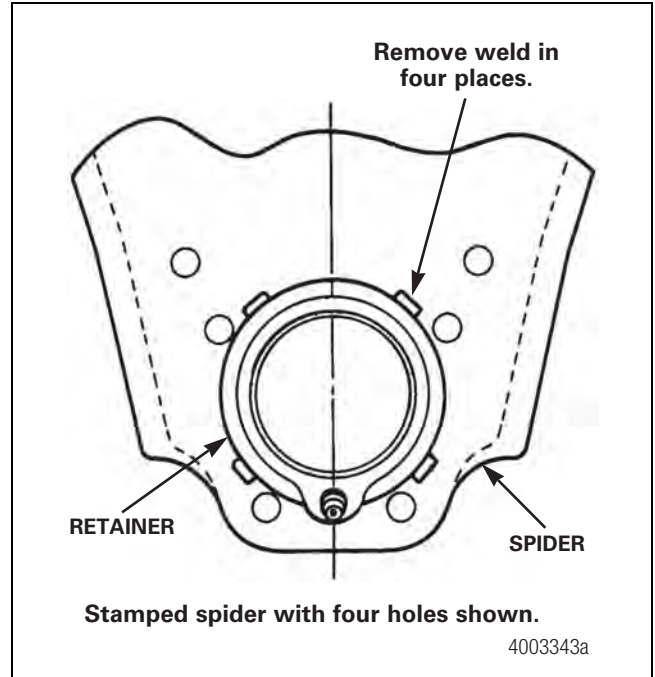

Figure 11.62
2. Grind the welds that attach the retainer to the spider. Grind only to the base metal of the spider. Position the grinding toward the retainer, since this item will be scrapped. Figure 11.62.